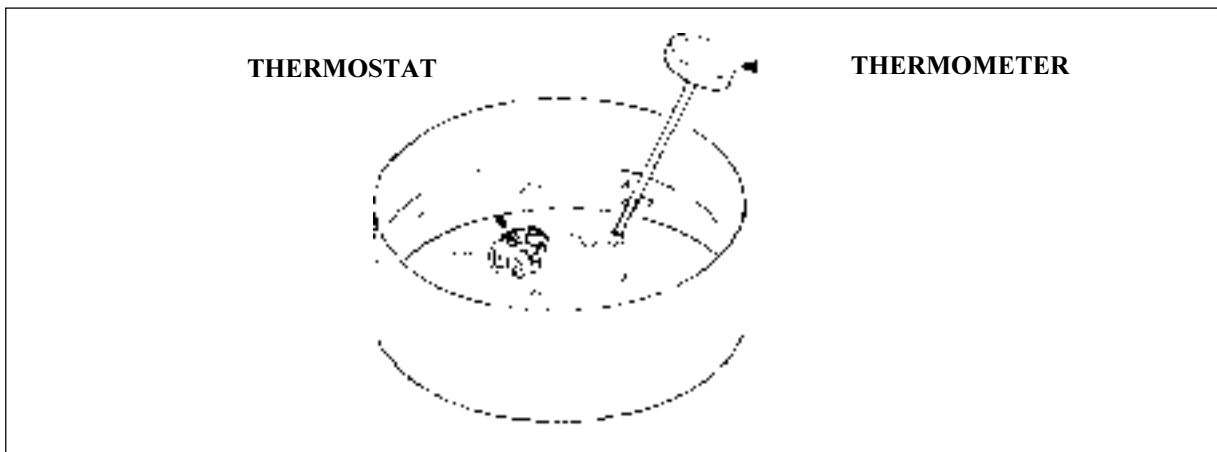

Figure 23. Thermostat Test.
2. Unfasten the hold down strap and remove the lid from battery box. (See Figure 23.)